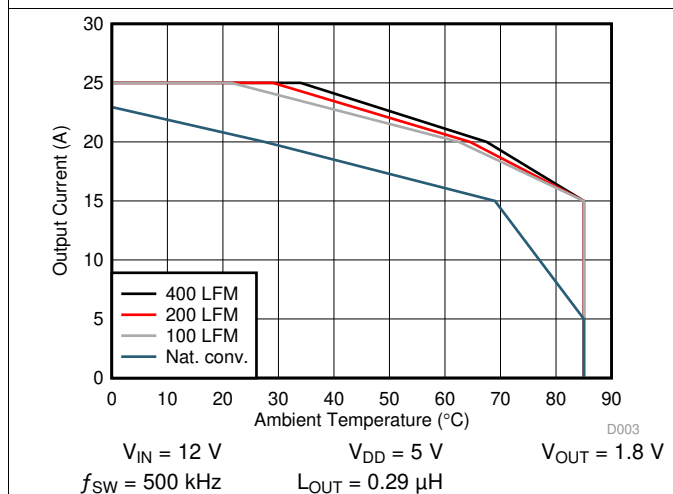

Figure 3. Safe Operating Area – PCB Horizontal Mount ⁽¹⁾
The SOA curves in the CSD97374Q4M data sheet give engineers guidance on the temperature boundaries within an operating system by incorporating the thermal resistance and system power loss. Figure 3 and Figure 4 outline the temperature and airflow conditions required for a given load current. The area under the curve dictates the safe operating area. All the curves are based on measurements made on a PCB design with dimensions of 4 in (W) × 3.5 in (L) × 0.062 in (T) and 6 copper layers of 1-oz copper thickness.